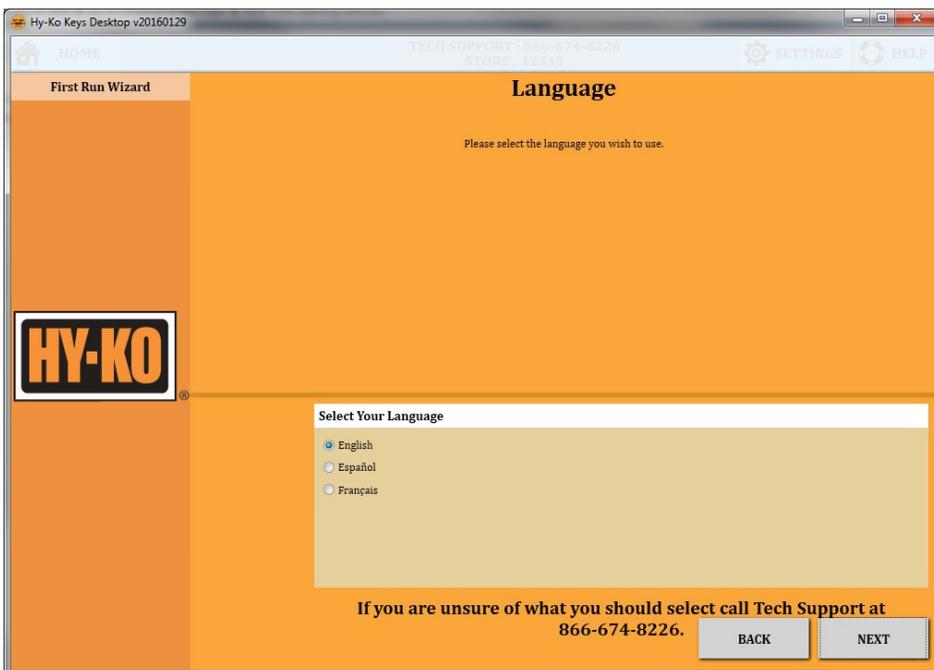

fig. 4
- Choose your language then click **'NEXT'** (see fig. 4).